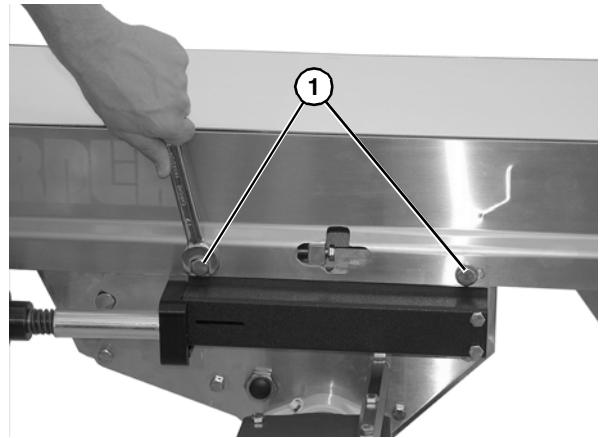

Figure 55
2. If necessary, adjust the tracking bolt: loosen the center drive fastening screws (**Figure 55, item 1**) on the side of center drive to be tracked.
4. Tighten the center drive fastening screws (**Figure 55, item 1**) to 146 in-lbs (16.5 N m).